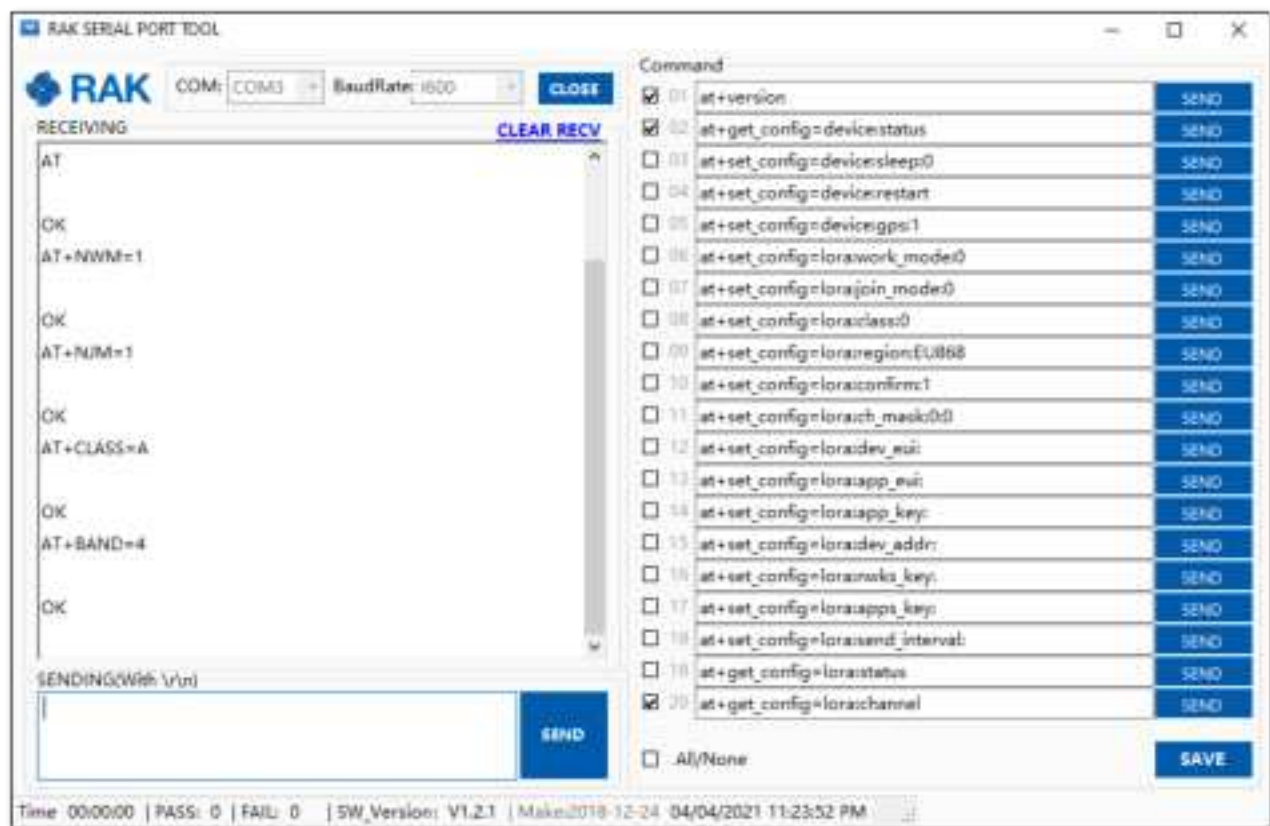
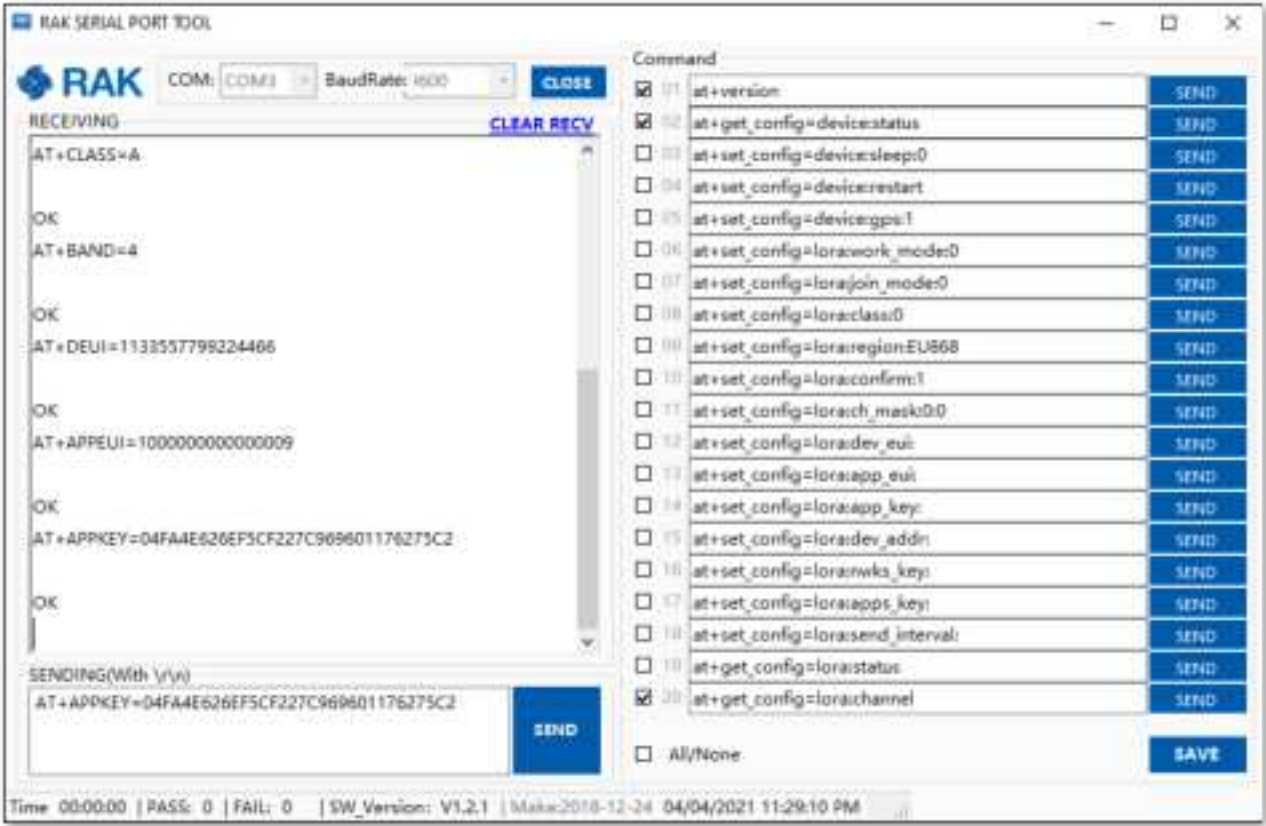

Figure 52: Configuring LoRa Parameters
Figure 53: Configuring LoRa Parameters
2. To register the module, you need to click first **Manually** then configure the activation method by selecting **Activation by personalization (ABP)** compatible **LoRaWAN version** and click the **Start** button, as shown in **Figure 52** and **Figure 53**.